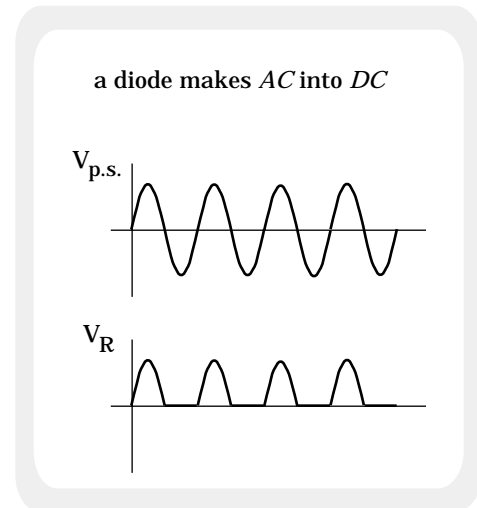

FIGURE 21.5c
f.) Bottom line: Diodes allow current to flow in one and only one direction. That is, they make DC out of AC. The graphs in Figure 21.5c summarize this.